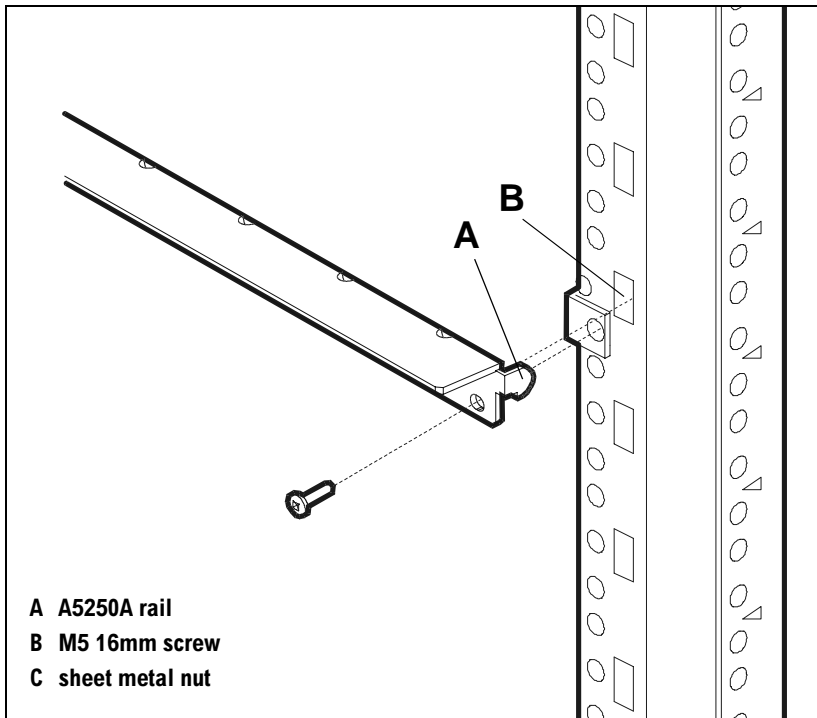

Figure 17 Rail Assembly – HP Legacy Racks
- a. Insert rail tabs (A in Figure 17) into the bottom slots (B) of the selected space on the right front and back columns. Make sure that the rail is level and rail holes align with the sheet metal nuts you just installed on the rack column.